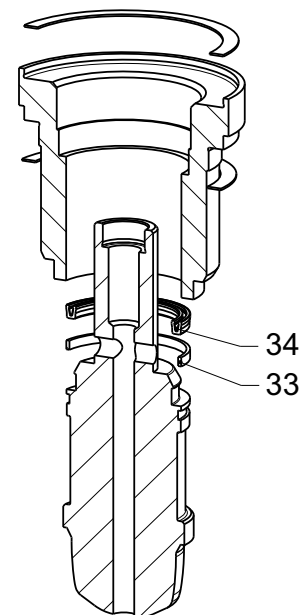

Fig. 18: Pressure balanced plug with PTFE V-ring
- Remove plug as described in item 7.2.1.
- Prise worn piston seal (pos. 34) out of groove in plug with suitable tool (e.g. screwdriver).
- Insert new piston seal (pos. 34), taking care that it is in the correct position (refer to Fig. 18).
- Replace guide ring (pos. 33).
- Clean sliding surface of guide bush (pos. 32); smooth with fine abrasive if necessary.
- Replace 2 gaskets (pos. 8).
- Secure with nuts (pos. 10) and tighten them crosswise.